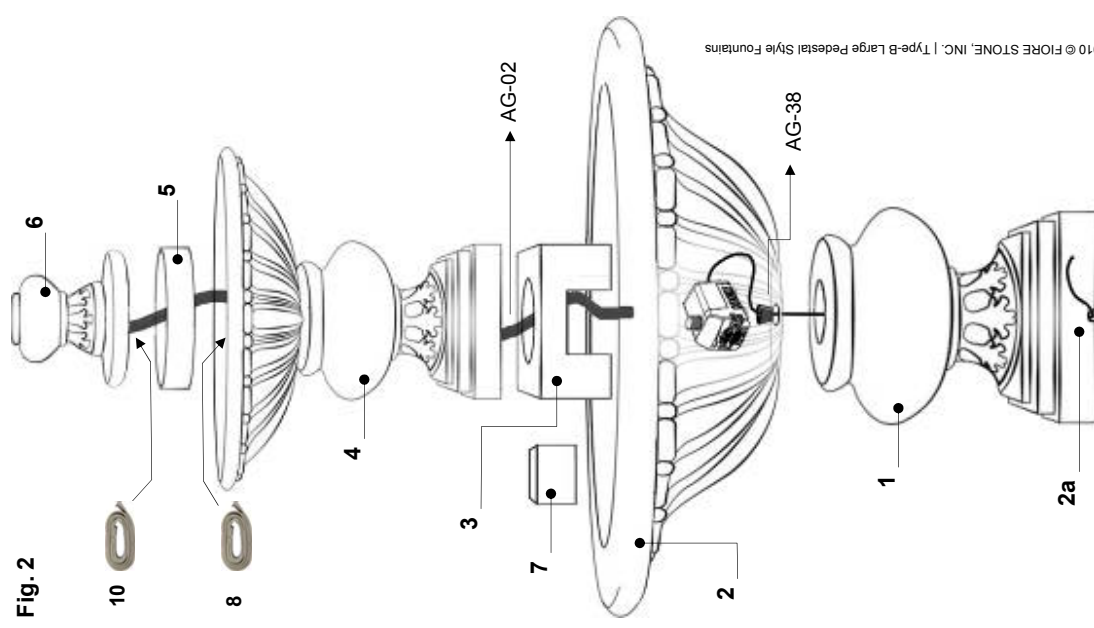

Fig. 2
Prior to assembly, please review the previous section headed "PREPARATION" regarding proper placement of pedestals. Figure 2 illustrates a typical pedestal type fountain, which can come in a wide variety of styles and configurations. These instructions apply to most pedestal type fountains which make use of the AG-38 GROMMET used to seal the hole cast in the bowl placed on top of the bottom base/pedestal.
- Tilt the bowl (2) on its side, on a soft padded surface. Do not tilt bowls or components directly on concrete or any hard surface that may cause damage to the product. Face the bottom of the bowl towards the pedestal and feed the pumps power cord through the inside of the bowl out the bottom. Continue by feeding the cord through the top of the pedestal and tilt the pedestal slightly to grab the cord from underneath and place it through the cavity (Fig. 2 - 2a) cast in the bottom of the pedestal.